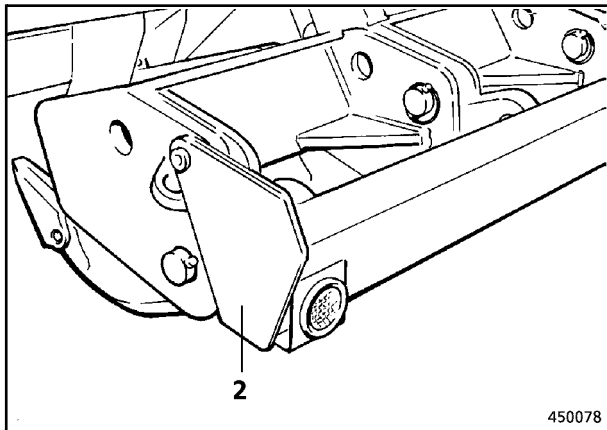
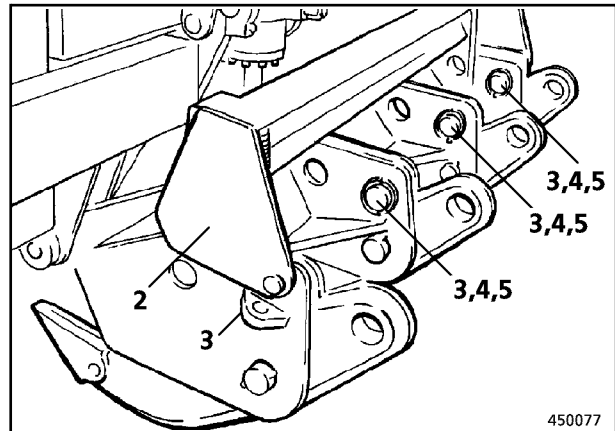
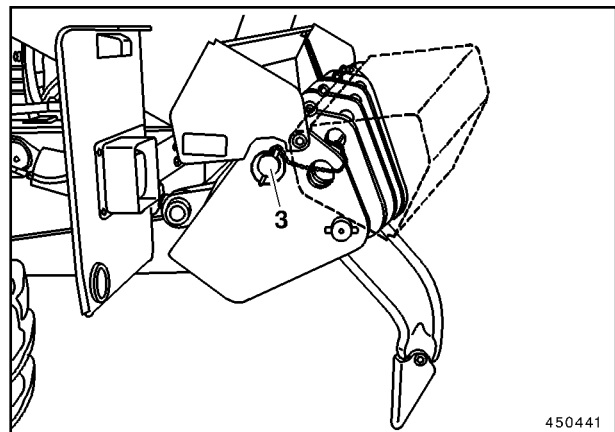

Fig. 1
Fig. 2
Fig. 3
- Swing tooth guard (2, Fig. 1) upwards (Fig. 2). It is held in this position by springs.
- Remove the locking pins (4, Fig. 2) and remove retaining bolts (3).
- Swing tooth into working position (Fig. 3) and reinsert retaining bolts (3). Secure retaining bolts with locking pin (4, Fig. 2) and ring (5).